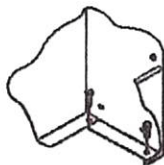

FIGURE 7
7. Anchor all units to the floor in the desired location. Use a 3/16" diameter anchoring device compatible with the floor construction and fasten through the 4 holes in the base of the unit. (FIGURE 7)